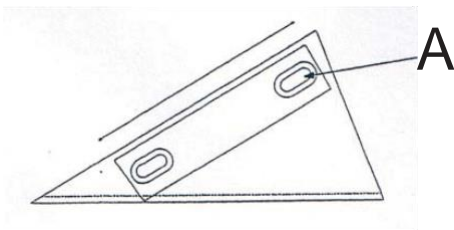

Fig. 4a
3. Loosen the four screws in the clamping device. Fig. 4a.